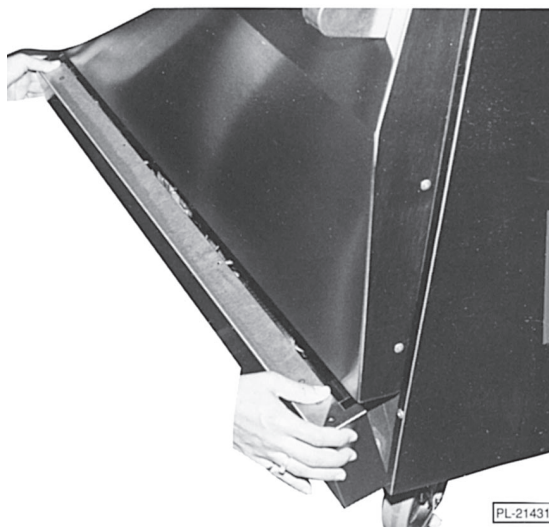

Fig. 11
1. Open unit kick panel and lift up the pilot lighting hole cover (Fig. 11).
1. Open the unit kick panel and lift up the pilot lighting hole cover (see Fig. 11).